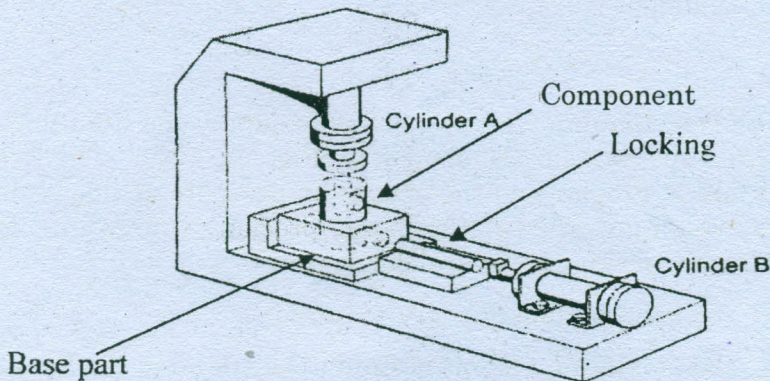

Fig. Q. 14(b) Set-up for inserting locking pin
- (b) A set-up for assembly of component with a base part using a locking pin is shown in Fig. Q. 14(b). The component is fixed on the base part manually. Once the start button is pressed, cylinder 'A' slowly presses the component into the base part, followed by cylinder 'B' which slowly presses the locking pin from the side. After inserting the locking pin, cylinder 'B' retracts followed by cylinder 'A'. Develop a pneumatic circuit for the above operation using Cascade method.